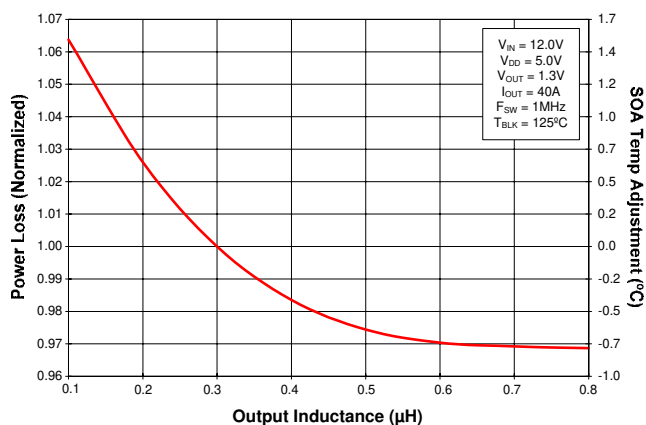

Figure 5 Normalized Power Loss vs. Inductance
| (Figure 5) | Normalized power loss for output inductor $\approx 1.026$ |
- (Figure 5) SOA temperature adjustment for output inductor  $\approx 0.6^{\circ}\text{C}$